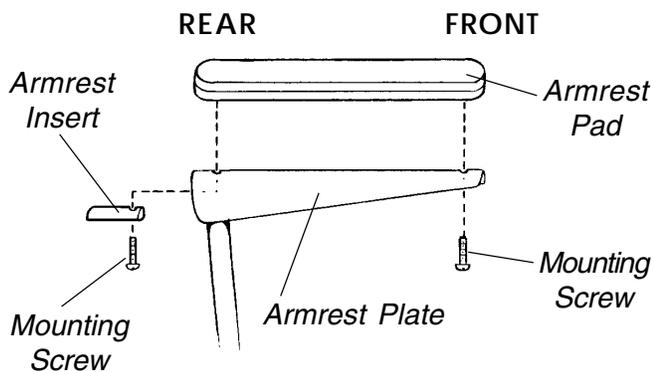

FIGURE 1 - REPLACING ARMREST PADS
**REPLACING ARMREST PADS (FIGURE 1)**